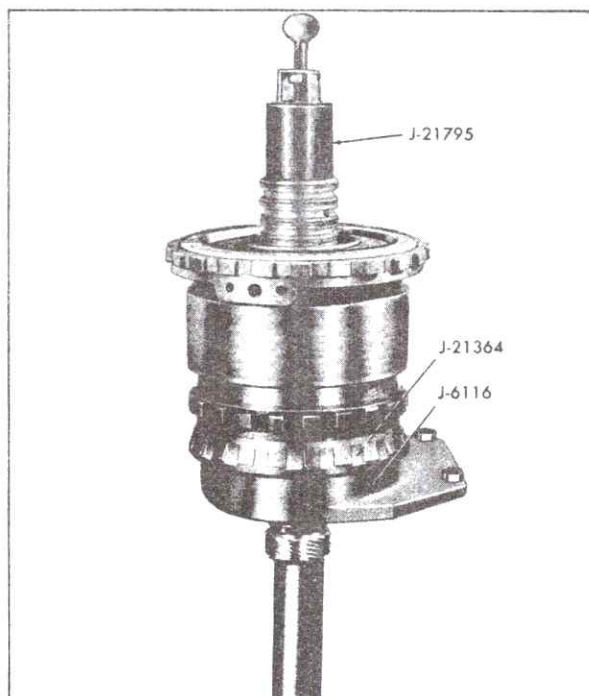

Fig. 7-45 Gear Unit in Holding Fixture
9. Using Adapter, J-21364, in Rear Unit Holding Fixture, J-6116, place gear unit assembly in holding fixture with main shaft pointing upward, Fig. 7-45. Remove Tool J-21795.